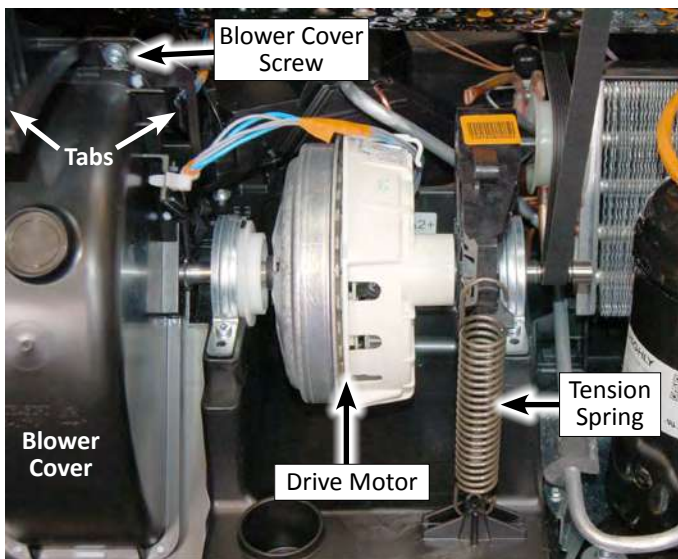

Figure 1
4. Use needle nose pliers to remove tension spring from drive motor (see Figure 1). Remove belt from tensioner.
6. Remove the T20 Torx screw from the blower wheel cover (as illustrated in Figure 1).
7. Depress the two tabs to release the blower wheel cover. Then, rotate blower cover down. See Figure 1.